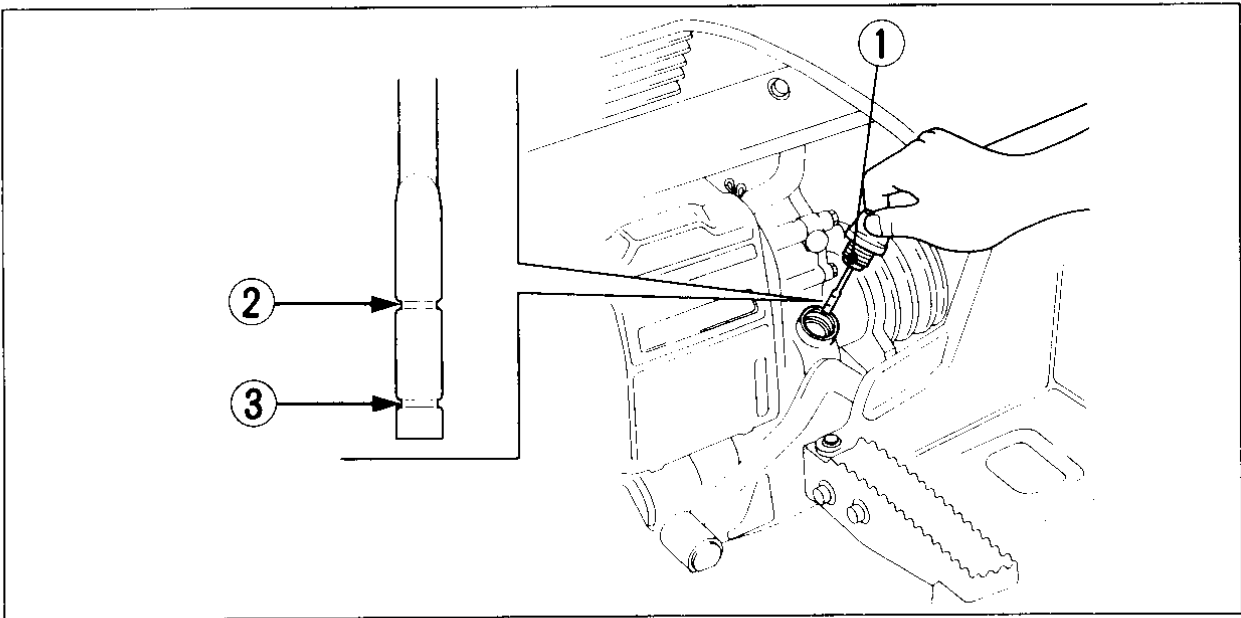

Fig. 2-19
The oil filler cap/dipstick (Fig. 2-19), on the rear crankcase cover, is used to measure the oil level. The oil should be checked each day before operating the FOURTRAX and maintained between the upper level mark (2) and the lower level mark (3).